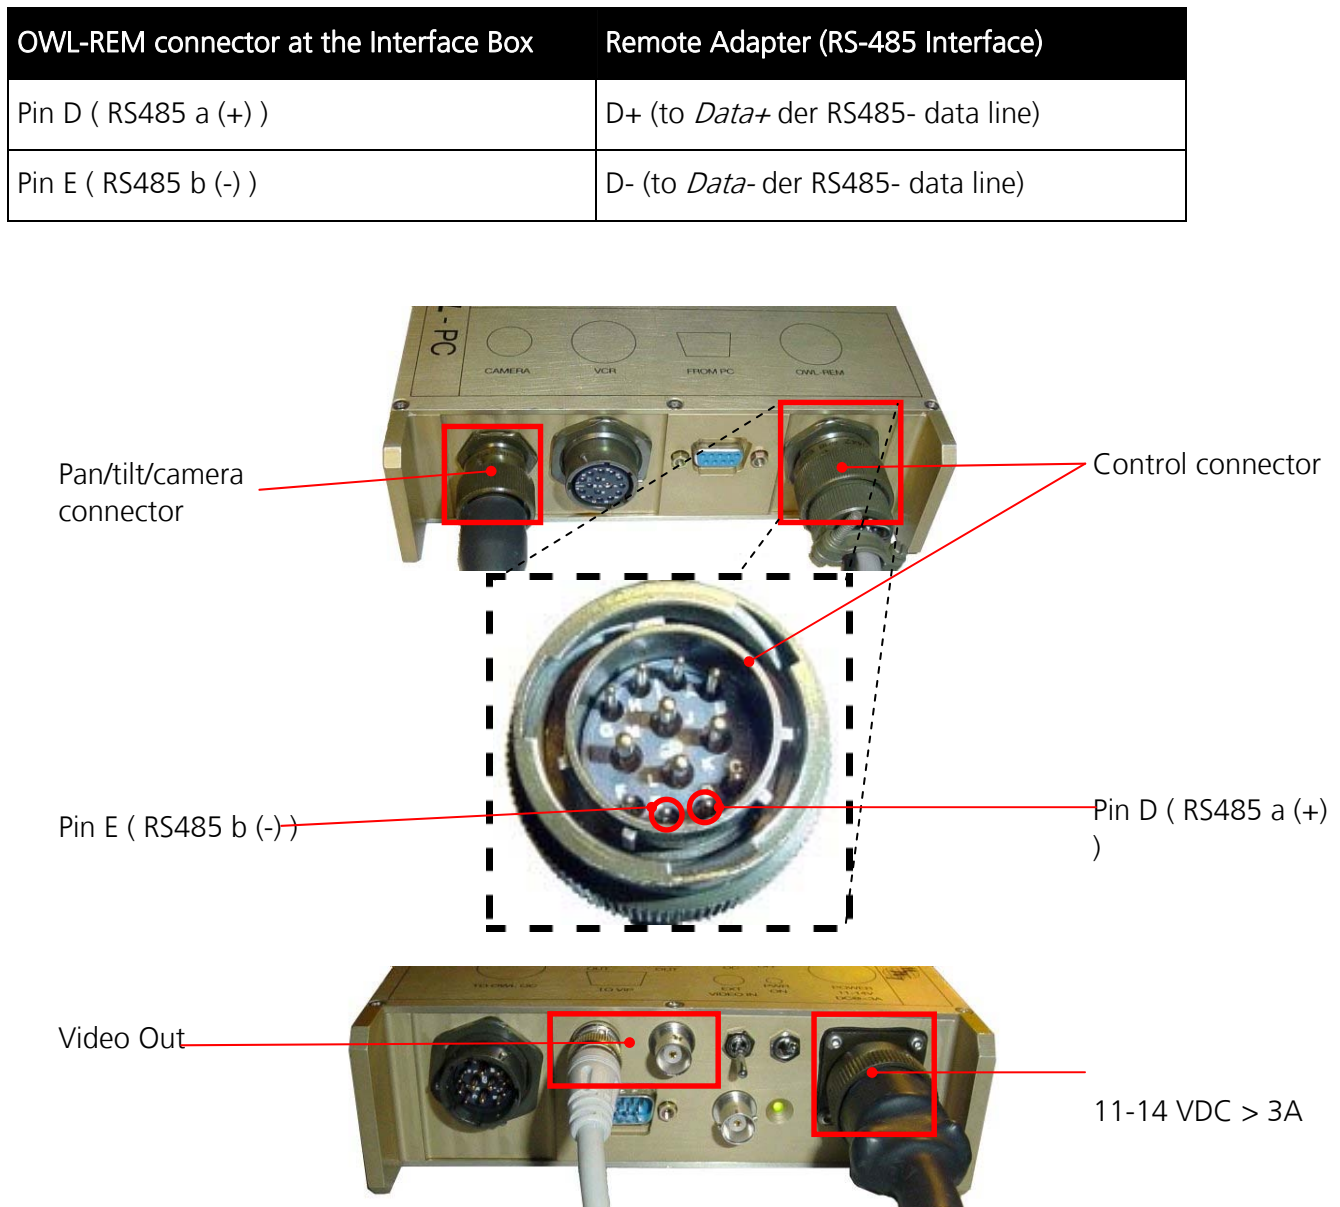

Figure 1: OWL-PC INTERFACE BOX – Connectors at front and rear
The connection (9600 baud) between the Remote Adapter (RA) and the LMW OWL must be established via the RS-485 interface. The control connection of the Interface Box is a 1412 Military connector named OWL-REM (Fig. 1).